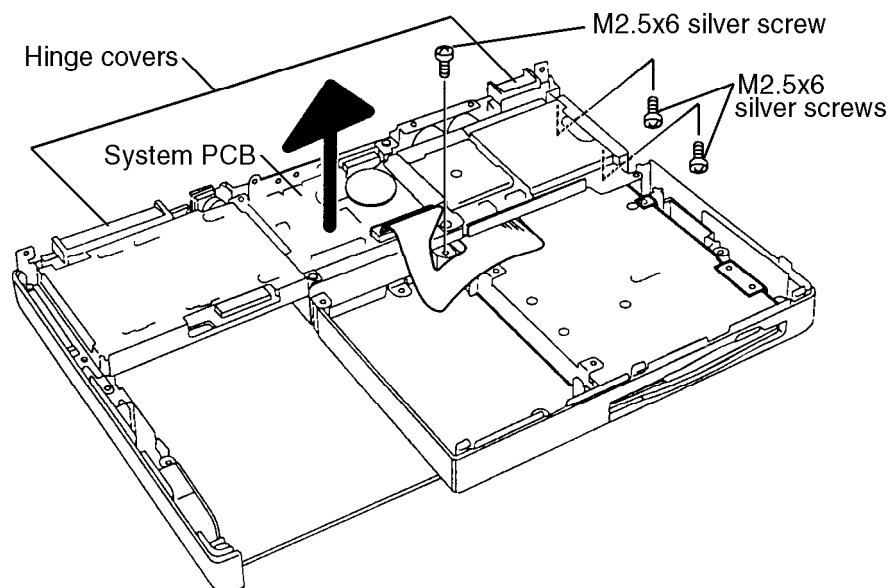

Figure 4-21 Removing the System PCB
To remove the T4500/T4600 Family computer's system board, follow the steps below and refer to Figures 4-21 and 4-22.
3. Remove **two M2.5x6 silver screws** from the bottom cover and **one M2.5x6 silver screw** securing the **system PCB** (Figure 4-21).
4. Disconnect the FDD cable at the **system PCB** (Figure 4-21).
5. Lift the **system PCB** out of the computer's case (Figure 4-21).
To install the computer's system board, follow the steps below and refer to Figure 4-21.